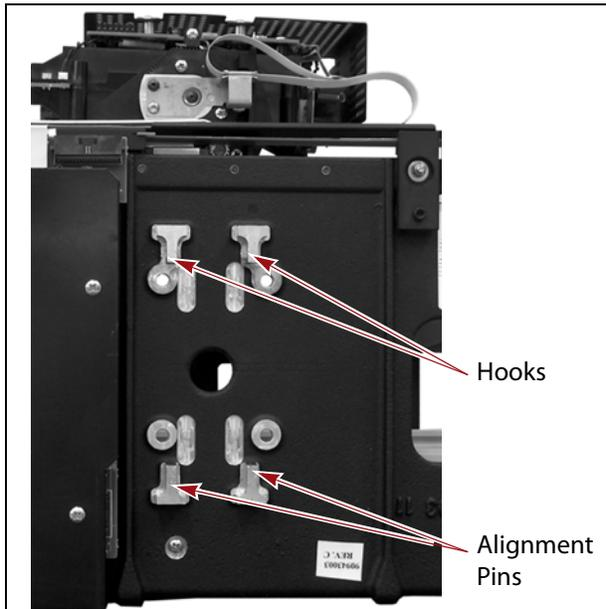
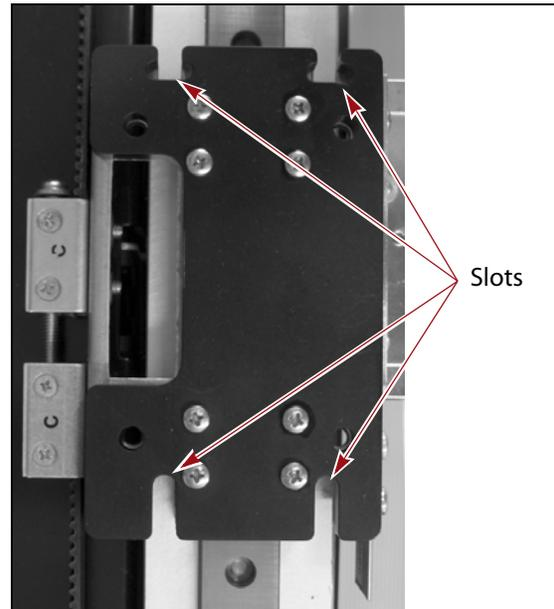

Figure 23 The transporter mounting hooks and alignment pins. (viewed from the back of the transporter).
Figure 24 The slots on the mounting bracket.
1. With one hand supporting the weight of the transporter from underneath and your other hand stabilizing it, orient the transporter with the bracket hooks toward the mounting bracket on the VAX column (see Figure 23 and Figure 24).